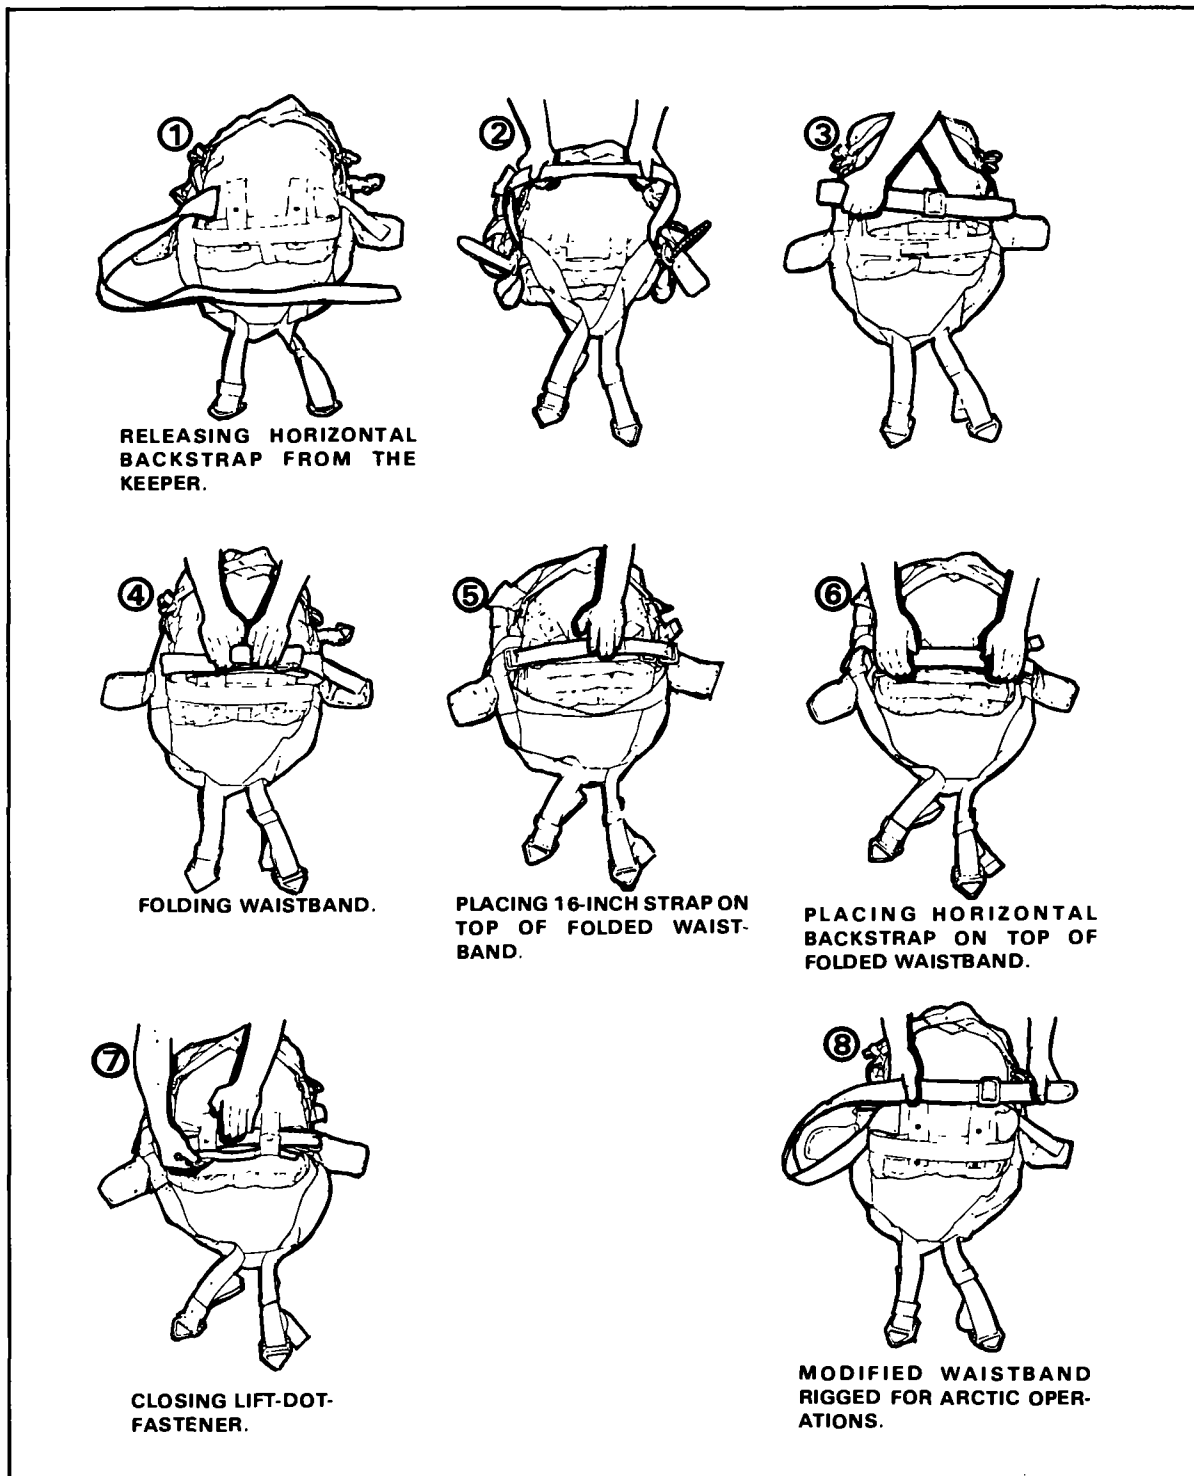

Figure 7-1. Modified waistband routed on parachute harness.
a. **Waistband.** A modified waistband (strap) is used in lieu of the standard waistband when parachuting with snowshoes or skis. The strap consists of two pieces: a 6-foot A-7A strap and a 16-inch strap with a buckle at each end. The skis or snowshoes are attached to the side of the parachutist opposite the static line (to prevent fouling). The modified waistband allows the buckle (for the quick-release fold) to be located on the same (either) side with the snowshoes or skis (Figure 7-1). Tandem loads are